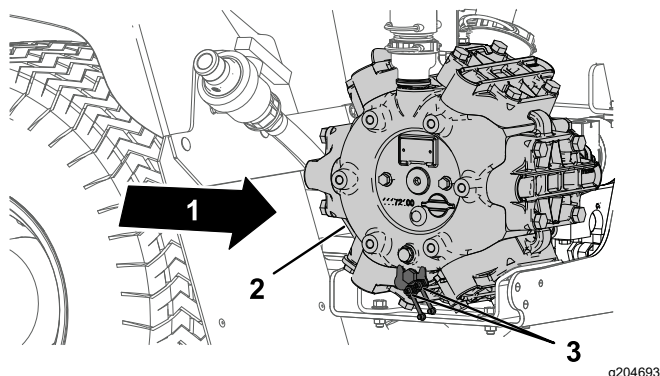

Figure 103
1. Wipe the 2 remote grease fitting clean (Figure 103).
2. Pump grease into the remote grease fitting (Figure 103).